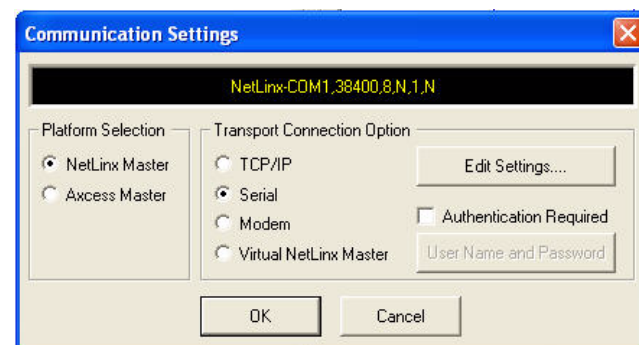

FIG. 36 Communications Settings dialog
3. Click the **Communications Settings** button to open the *Communications Settings* dialog (FIG. 36).